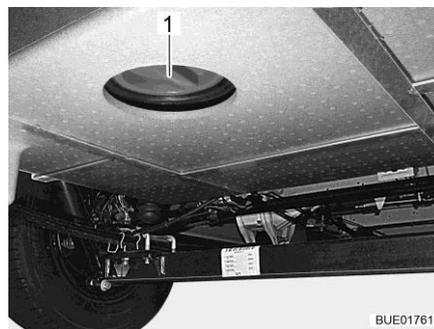

Fig. 282 Cleaning opening (waste water tank)
- Open the cleaning opening (Fig. 282,1) on the waste water tank and the drain cock.